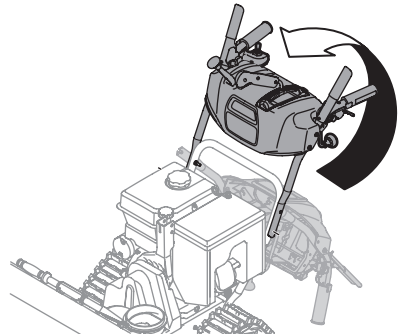

Figure 3
5. Pivot handle upward and align the lower handle (Figure 3). Remove and discard any rubber bands, if present. They are for packaging purposes only.